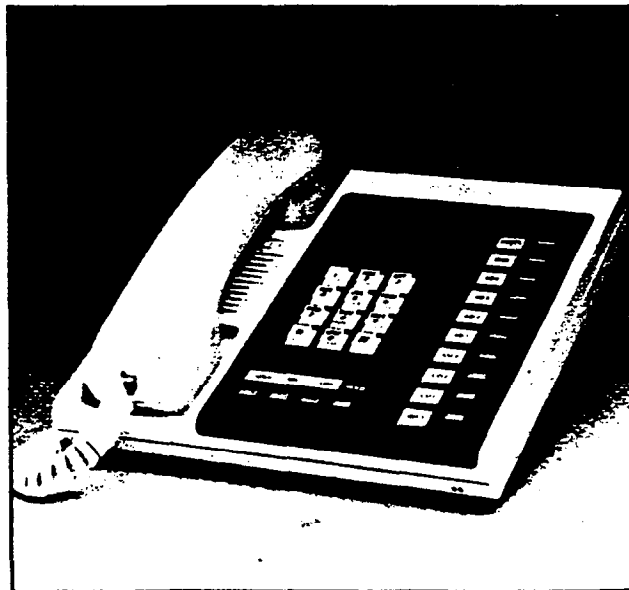

FIGURE 13—10-key EKT
06.23 The optional 10-key EKT (Figure 13) provides the same programmable feature keys as the standard EKT, plus a microphone control key **MIC**, handsfree answerback and full speakerphone capability.